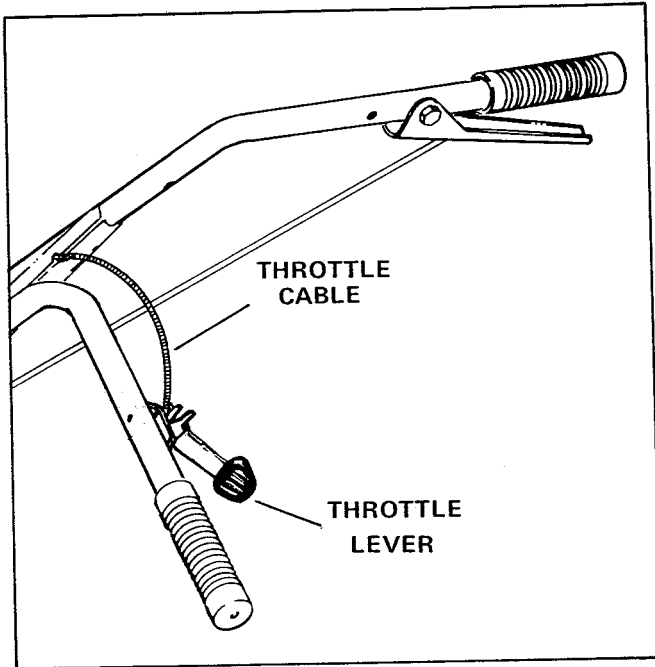

Figure 4.
See Figure 4. Familiarize yourself with the following controls:
- See Figure 4. Move throttle lever halfway between SLOW and FAST position.